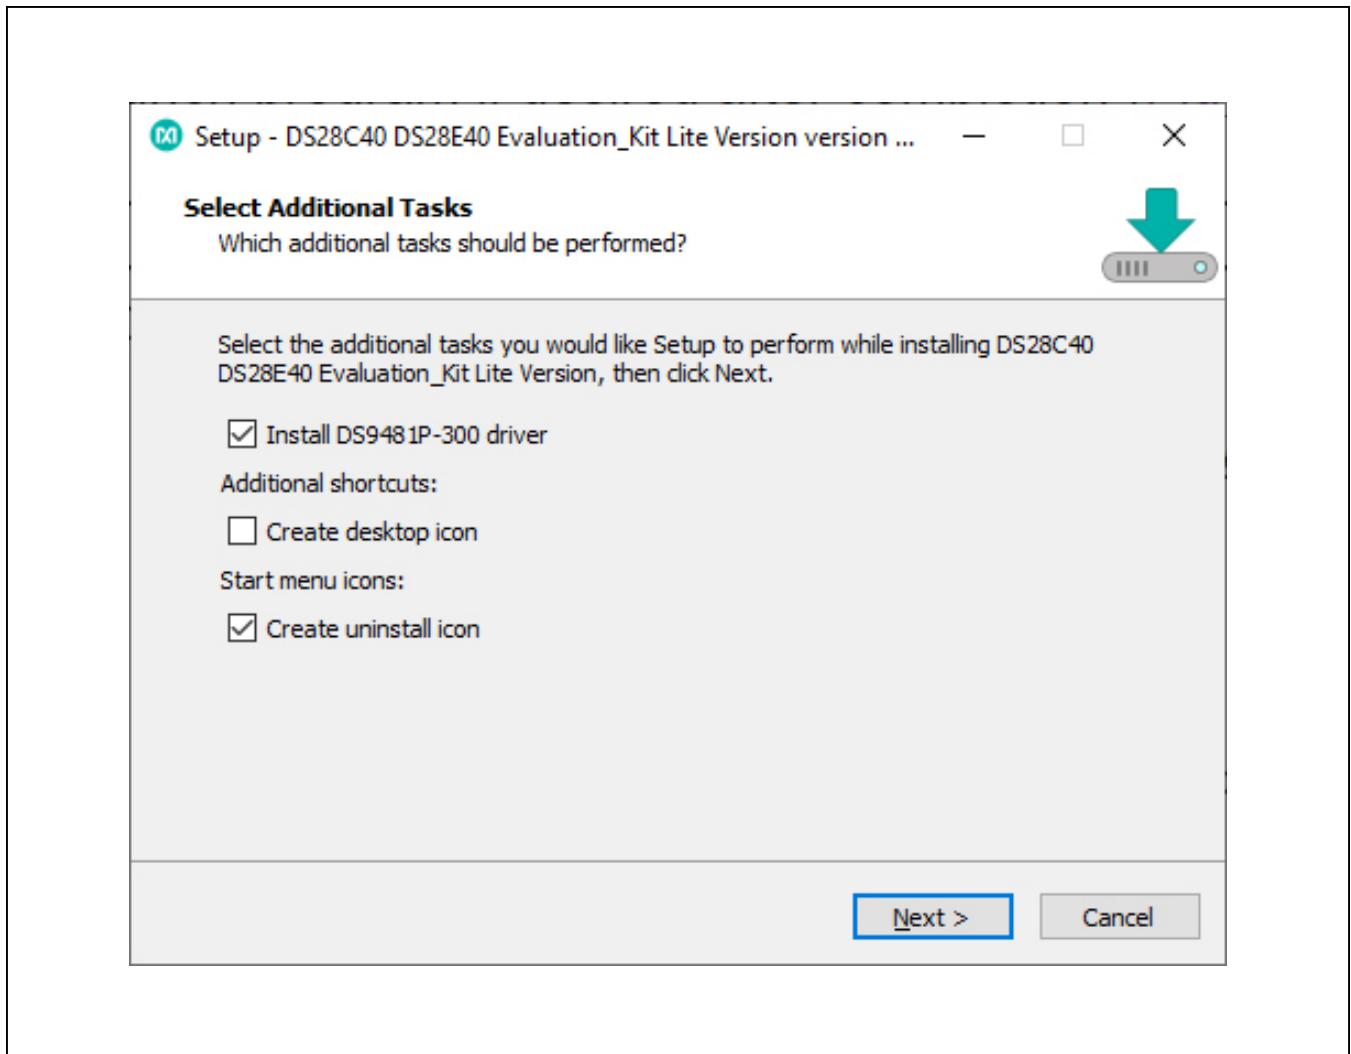

Figure 2. DS28E40 Setup Wizard
- 3) The setup wizard opens; click **Next** as shown in Figure 2.